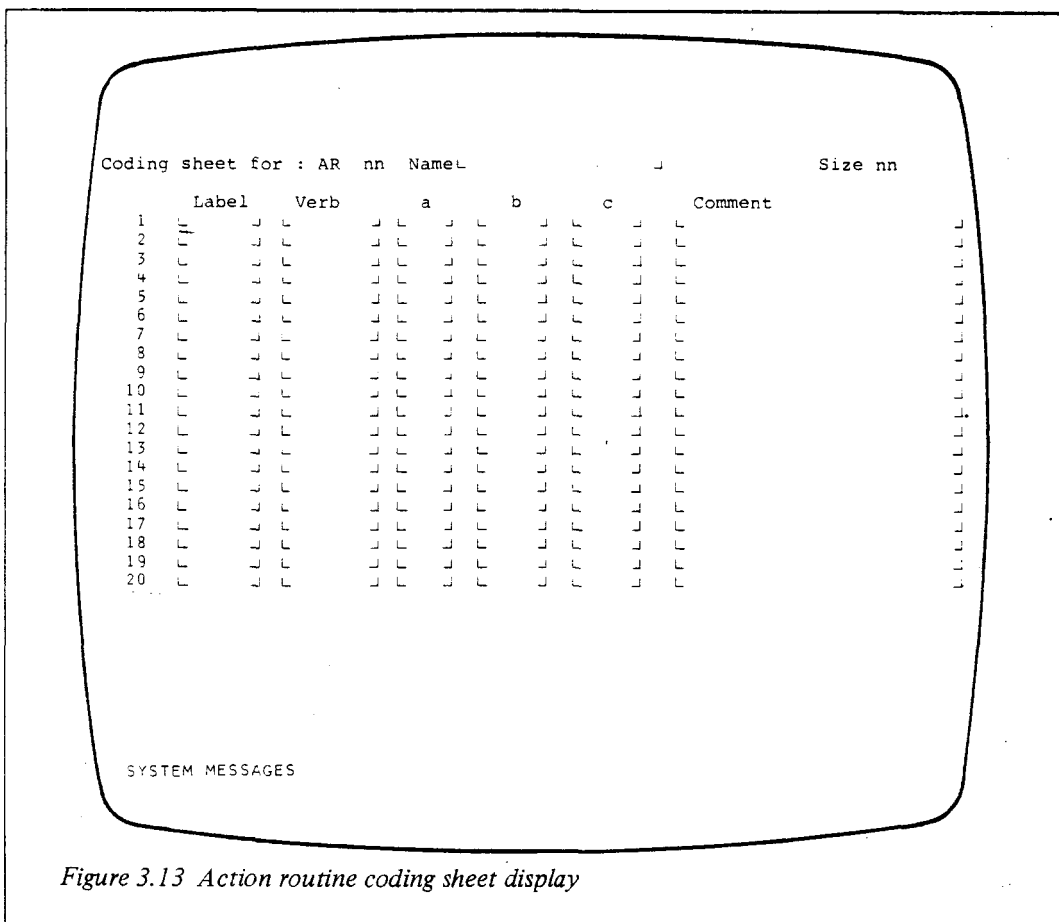

Figure 3.13 Action routine coding sheet display
- 4 Press the TAB key. The action routine coding sheet display will then appear (see Figure 3.13)